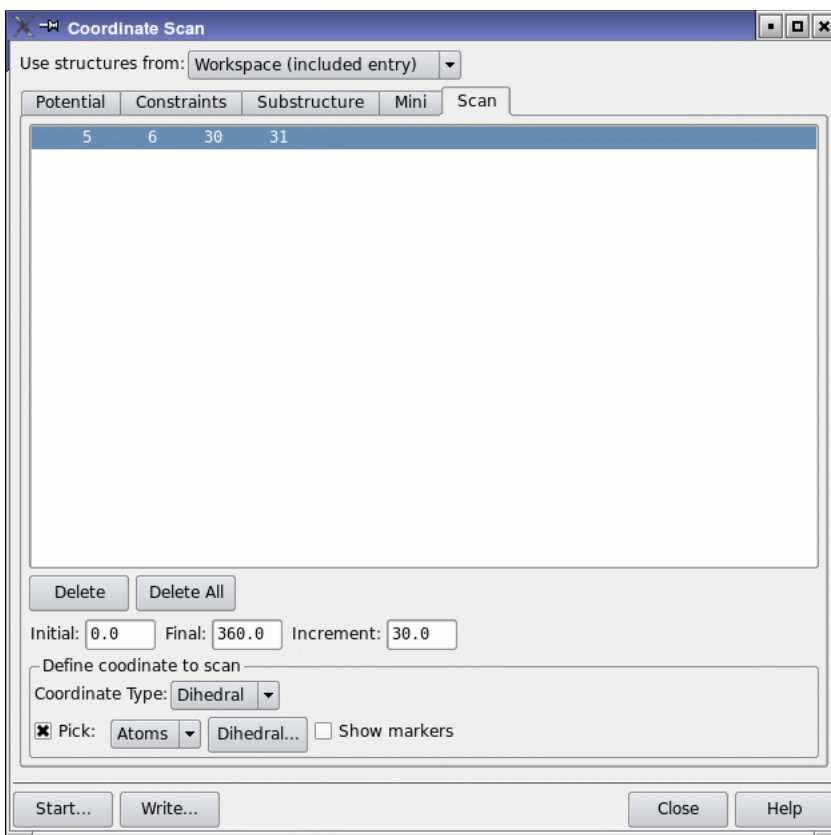

Figure 5.3. The Coordinate Scan panel showing the Scan tab.
9. Choose Atoms from the Pick menu (see Figure 5.3).